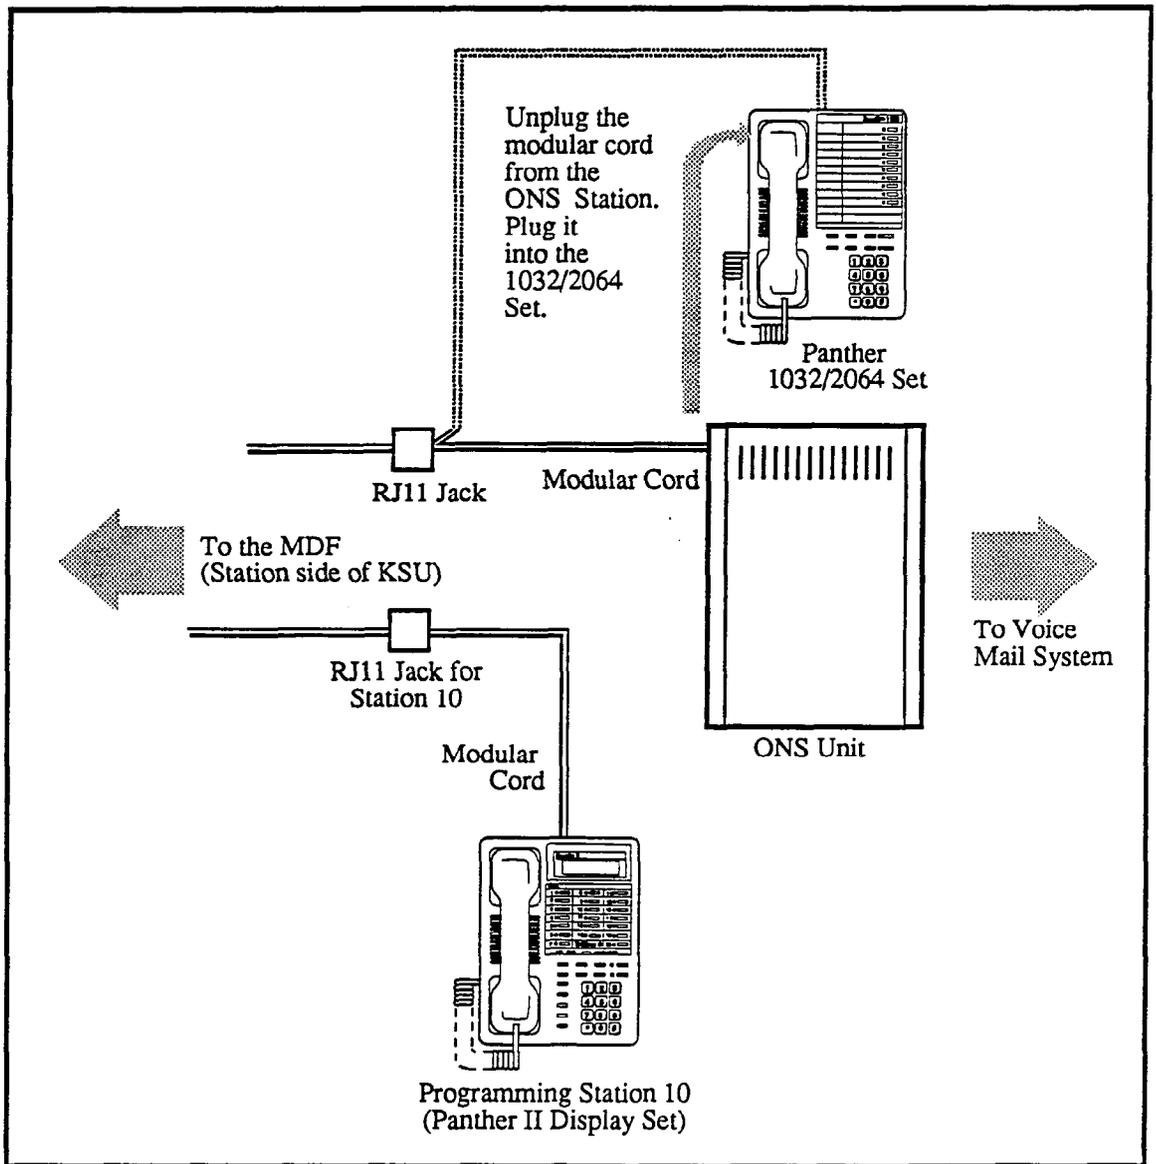

Figure 5-1: Setting Call Forwarding
- Step 6 Unplug the modular cord (that corresponds to the auto attendant or voice mail system) from the left-hand side of the ONS Unit (see Figure 5-1).